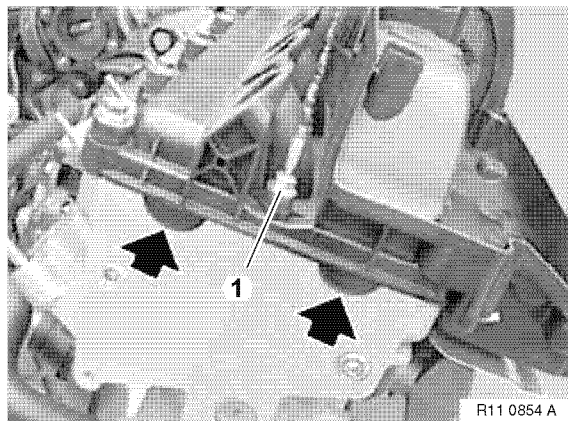

Figure 5-6
*Note: Double-ended bolts (1, **Figure 5-6**) are used on the inner row only.*
4. Install cylinder head cover. Tighten bolts in two stages to 9.5 N·m (84 in.-lb). Tighten inner row (1, **Figure 5-6**) working evenly from the center towards each end. Tighten outer bolts evenly and diagonally.